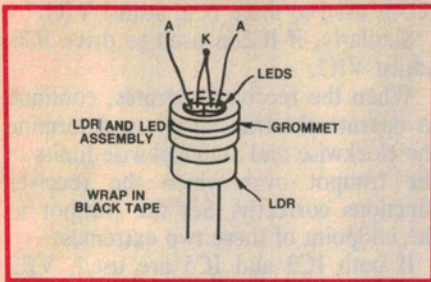

Fig.3: the LDR and LED assembly.
Construction of the LDR and LED assembly is shown in Fig.3. The two 3mm diameter LEDs are held within the rubber grommet and the assembly is wrapped in insulation tape to exclude any external light. The cathode (K) leads of the two LEDs are soldered together, while the anode leads are soldered to two PC stakes situated in the lower right hand corner of the PCB.